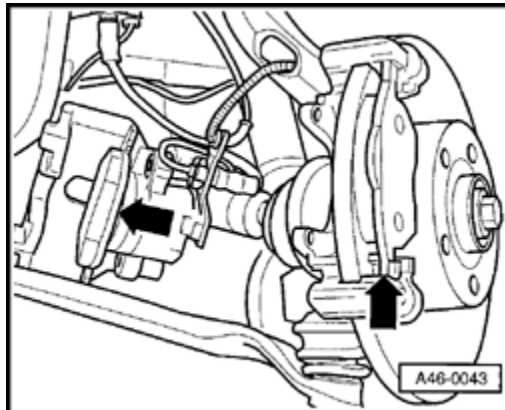

Figure 6. The contact points.
1. Thoroughly clean all contact points (Figure 6) where the brake pad backing plate makes contact with the brake caliper and/or the brake carrier.
2. Prior to reinstalling the brake pads, apply a thin coat of Plastilube Moly3® high temperature grease to all contact points (Figure 6) where the brake pad backing plate makes contact with the brake caliper and/or the brake carrier.